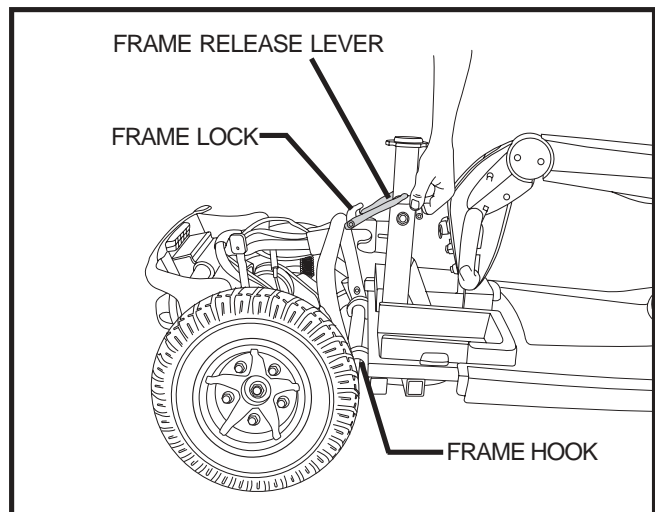

Figure 23. Frame Release
2. Lift up on the frame release lever. **See figure 23.**
2. Use the frame release lever to lift the front section as you align the frame hooks of the front section with the lower frame tube of the rear section. **See figure 23**.
3. Once the frame hooks are over the lower frame tube, lower the front section completely. This will engage the frame lock. **See figure 23**.